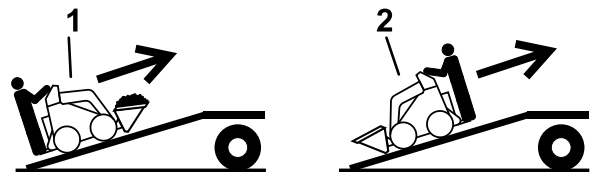

Figure 18
5. Load the machine onto the trailer with the heavy end up the ramp, carrying loads low (Figure 18).